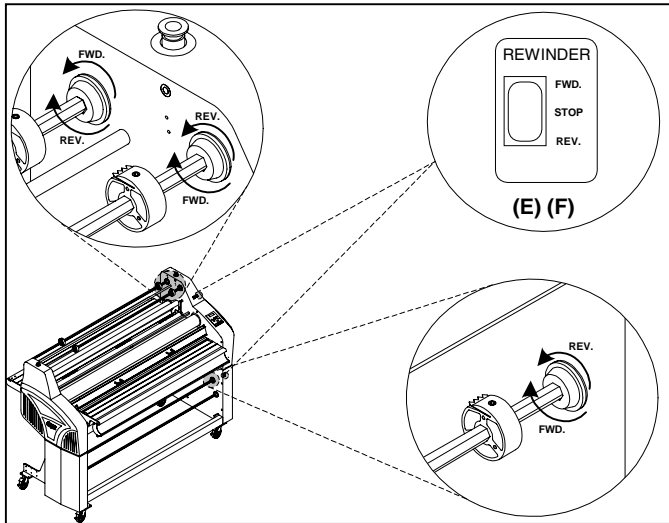

Fig. 10
**E. UPPER REWINDER DIRECTION SWITCH:** (Figure 10) This switch enables the operator to control the direction of the upper rewind/unwind shafts.
**F. LOWER REWINDER DIRECTION SWITCH:** (Figure 10) This switch enables the operator to control the direction of the Lower rewind/unwind shaft.